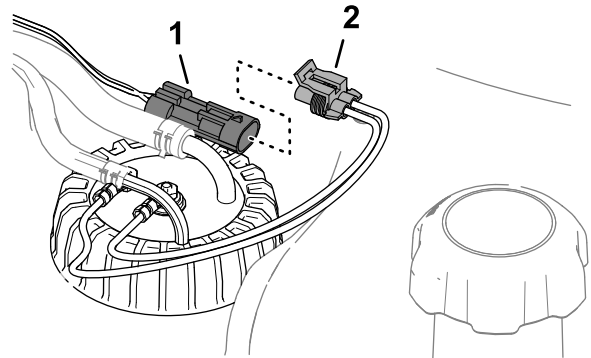

Figure 83
3. Remove the 2-socket connector of the fuel-sender harness from the 2-pin connector of the machine wire harness (Figure 83).